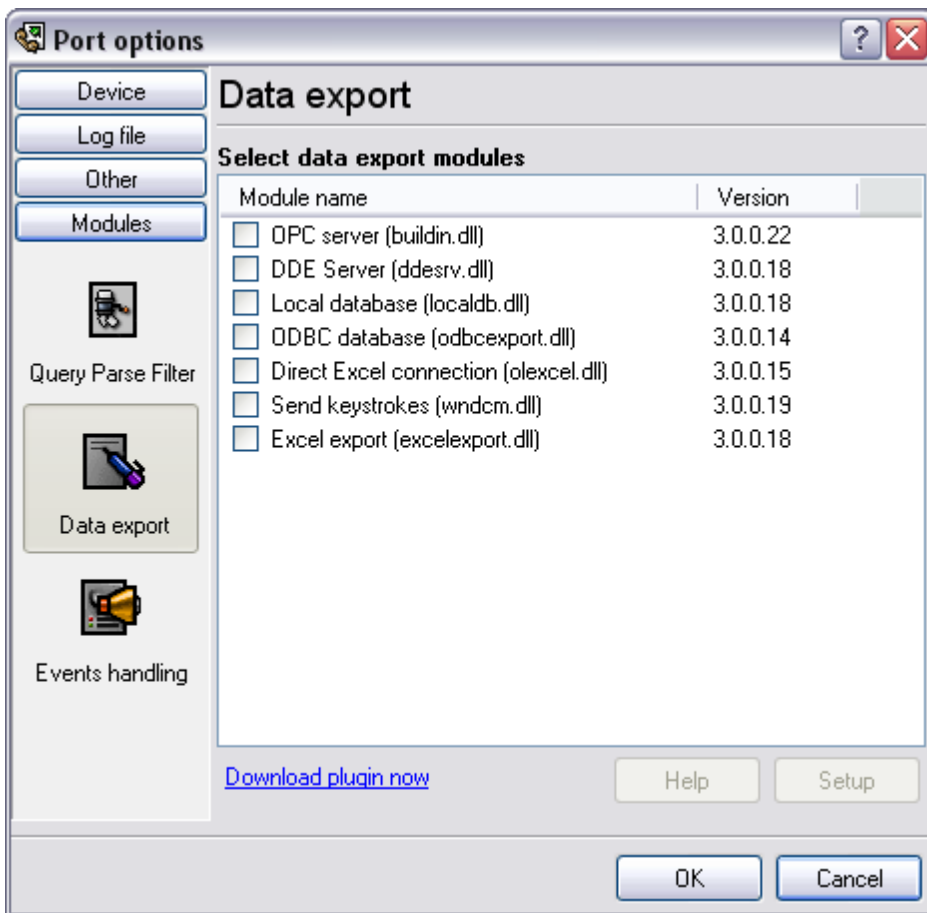

Fig.11 Data export modules
- **Data export** (fig.11) - Advanced Serial Data Logger has many modules for passing serial data directly to other applications, such as as keystrokes where incoming data is passed to other programs as a sequence of keys, as DDE Server that passes data to other programs